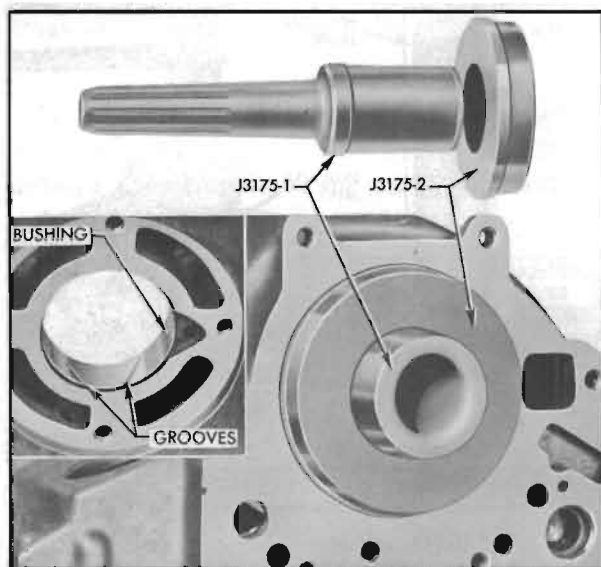

Figure 5-94—Transmission Case Bushing Remover and Replacer J 3175
5. To remove old bushing, place case over an opening with rear end down and drive bushing from case with Remover J 3175-1. To install new bushing place J 3175-2 in rear oil pump recess of case to serve as a pilot, slip bushing over J 3175-1 and drive bushing into case from front side until bushing is flush with front surface of wall which supports the bushing. Bushing must be installed with the wide deep ends of oil grooves toward rear side of case. See Figure 5-94.